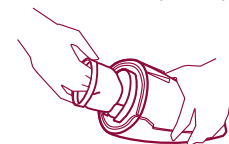

Fig. 11
- Remove the filter. (fig. 11)